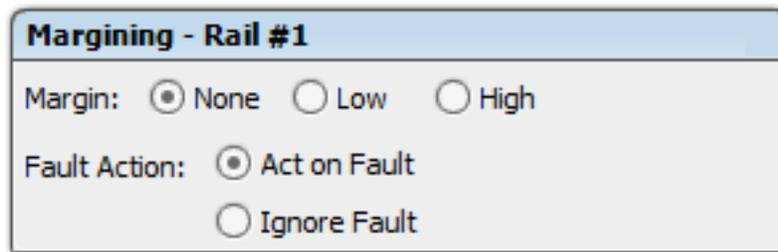

Figure 11. OPERATION Command Window
3. The rail may be shut down if the Margin High/Low threshold exceeds over voltage (OV) or under voltage (UV) thresholds. The UCD90xxx device allows users to override the fault actions during margining (see Figure 11).